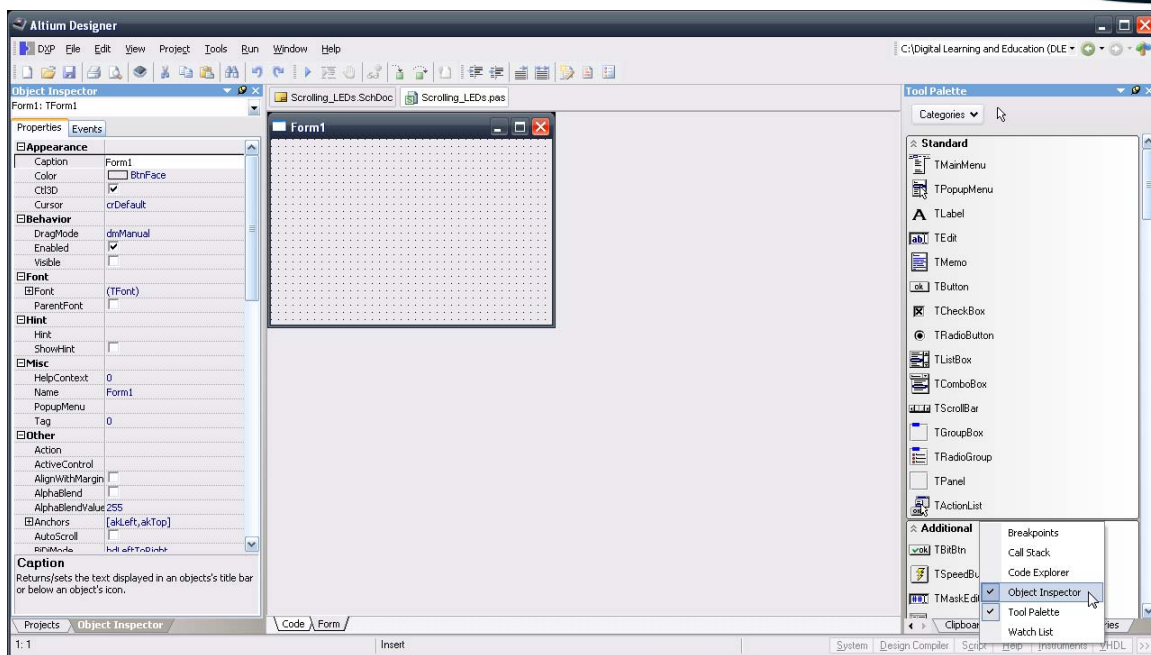

Figure 13. Main workspace configured for scripting
42. Open the Tool Palette panel, and dock it on the right hand side of the workspace, as shown in Figure 13. This panel can be opened via the Script menu at the bottom right of the main window, or by selecting **View»Workspace Panels»Script»Tool Palette** from the main menu.
43. Open the Object Inspector, and dock it on the left hand side of the workspace, as shown in Figure 13. This panel can be opened via the Script menu at the bottom right of the main window, or by selecting **View»Workspace Panels»Script» Object Inspector** from the main menu.